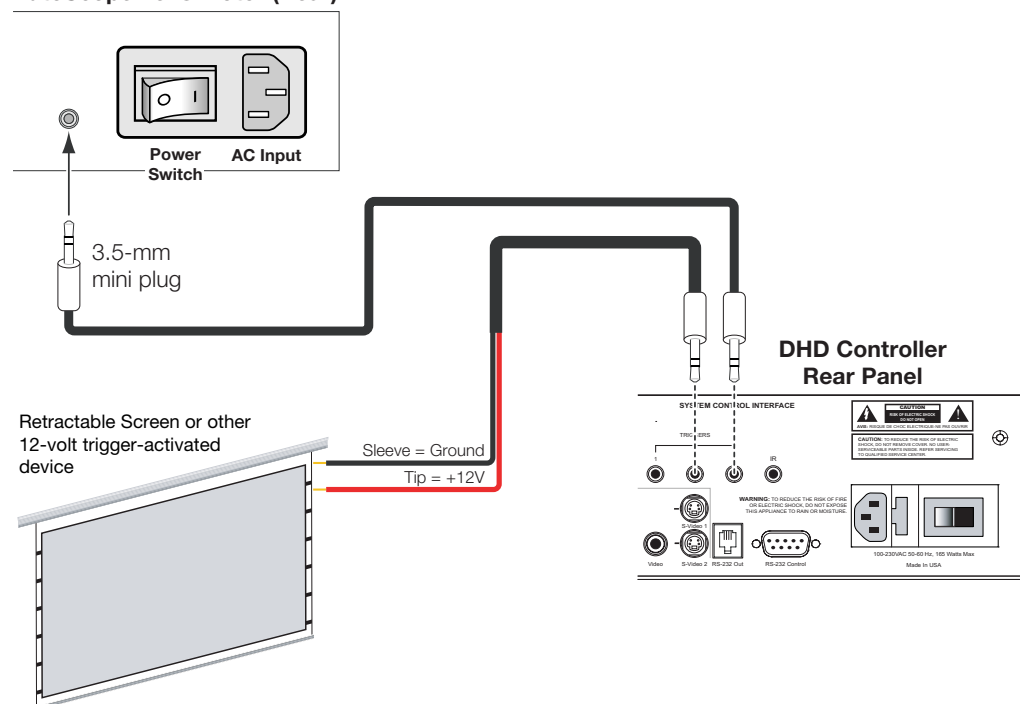

Figure 3-14. 12-volt Trigger Output Connections (from DHD Controller)
DHD Controller: If your VX-6000d is equipped with a CineWide with AutoScope system, connect the AutoScope lens motor to a 12-volt trigger output on the DHD Controller; see Figure 3-14.
3. If this is an AutoScope-equipped projector, turn on the main power switch at the rear of the AutoScope lens motor. The lens motor power switch is located next to the AC input (see Figure 3-14).